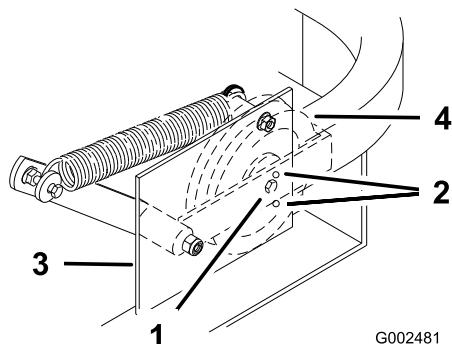

Figure 56
**Important:** Check and make sure the belt is installed into both the front and rear belt guides (Figure 56).
4. Check the belt tension. The spring loaded idler center bolt needs to be near the top alignment hole in left support plate (Figure 56).